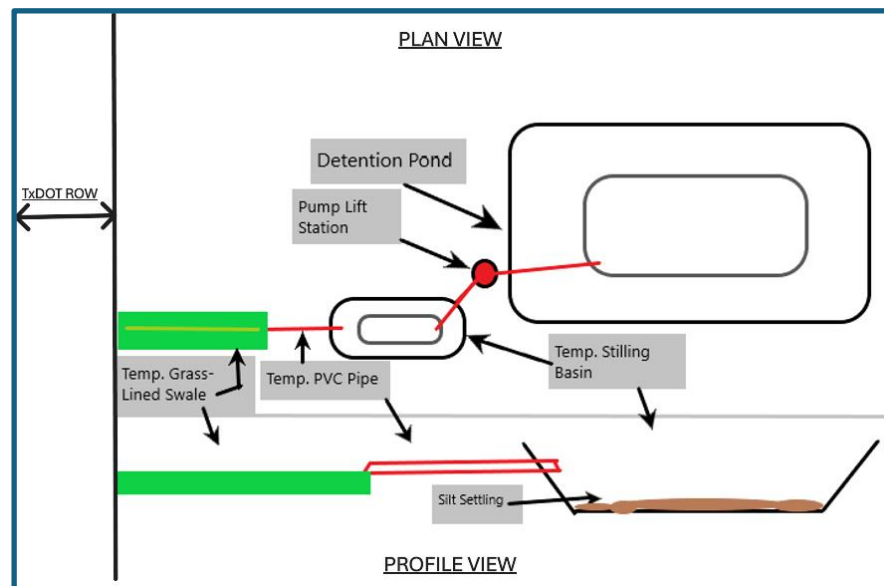

Figure 1: Example of Temporary Stilling Basin
1. Include construction of a temporary stilling basin next to the pond (depth and size to be determined by the Development's Engineer and drawn on the plan), that the contractor can use to discharge the polluted standing water on low areas of the project and bottom of the pond. This will allow silt and sediment to sink and settle to the bottom of the stilling basin. The basin will include a PVC or flexible gravity pipe that will be set above the bottom of the basin and will discharge a cleaner water to an on-site temporary grass-lined flat swale before draining to the TxDOT ROW, preferably to an inlet or roadside ditch. This recommendation is for temporary condition and will be used during construction until the site and the detention berms and side slopes are stabilized. Please see Figure 1 below for a conceptual example: